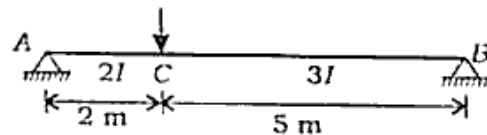

Fig. 4
6. Using conjugate method, determine the rotations at A , B and deflection at C point for a beam shown in Fig. 4